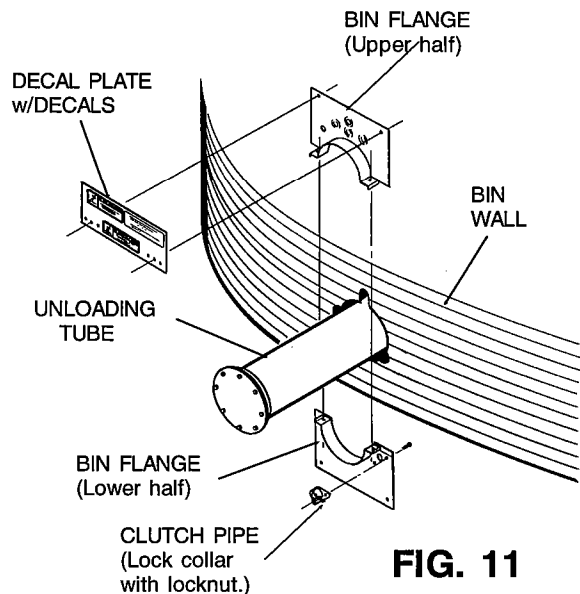

FIG. 11
Attach the bin flange to the auger tube using 5/16" x 1 1/2" bolts and nuts. Fasten the four corners of the bin flange to the bin by first drilling holes for 5/16" x 1" bolts in the bin wall through existing holes in the flange. Attach the decal plate to the upper flange while attaching to bin. Bolt the clutch lock collar to the lower bin flange half using two 1/4" x 3/4" carriage bolts. Install the bolt heads on the back side of the lower bin flange half, so they will be next to the bin wall when the flange is attached to the bin. (See Fig. 11.)
- E. Check operation of clutch by pulling the handle to engage the clutch and then pushing the handle to disengage. Control pipe should slide freely. Lock control pipe into disengaged position by tightening the bolt on the lock collar that is attached to the bin flange. See Fig. 11 on page 14.